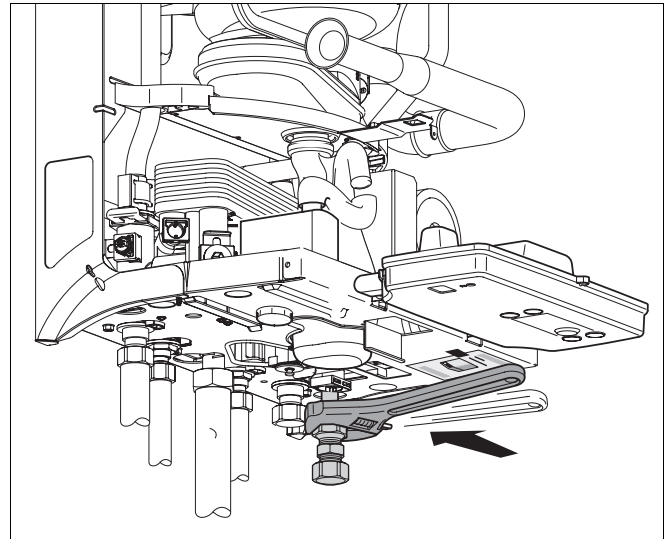

fig. 7 Compression fitting
- Attach the compression fitting (fig. 7).
Key to fig. 7: